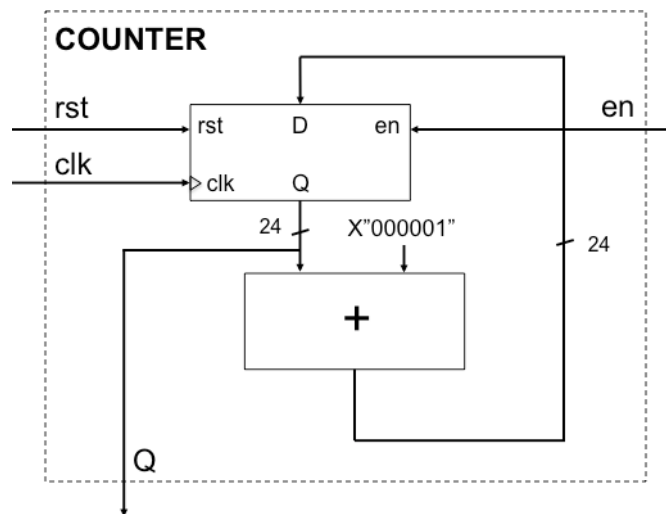

Fig. 3: Implementation of the Counter in the Debouncer circuit.
- A. The Debouncer circuit shown in Figs. 3 and 4 is implemented using CLB slices only,